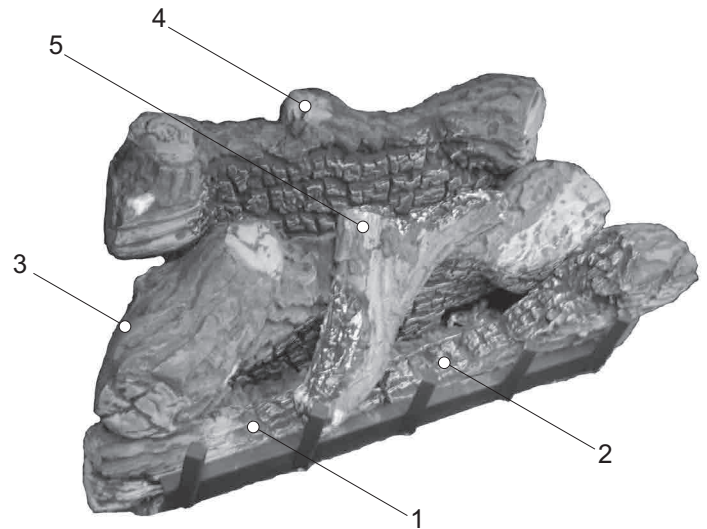
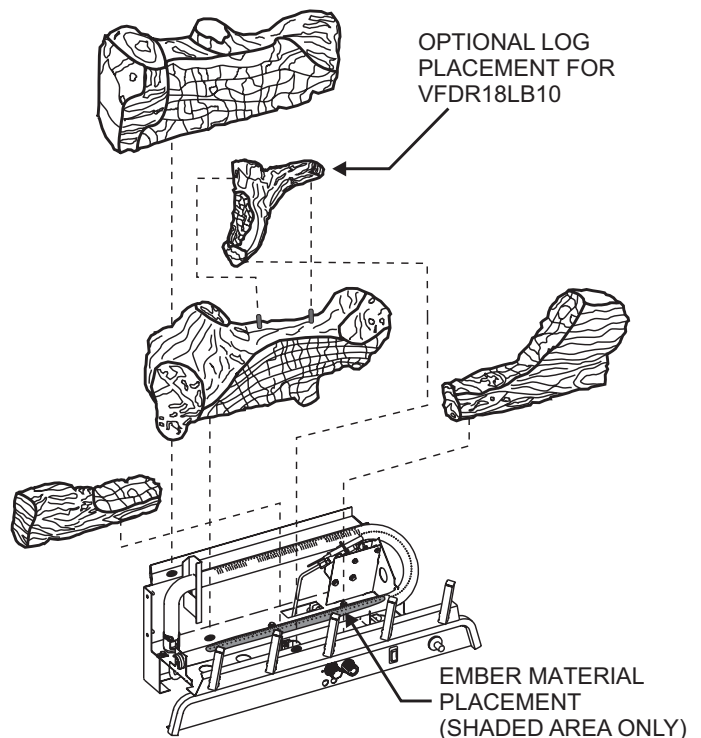
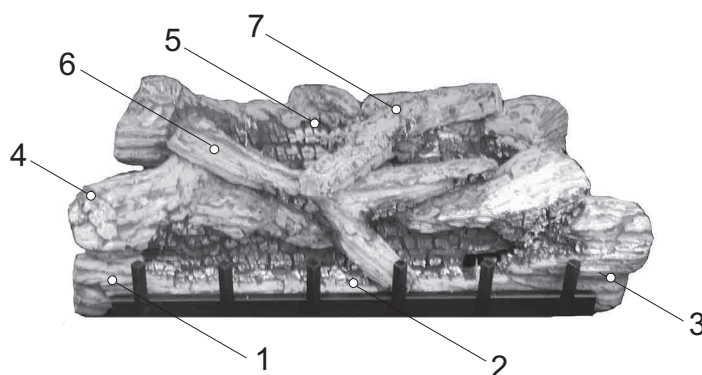
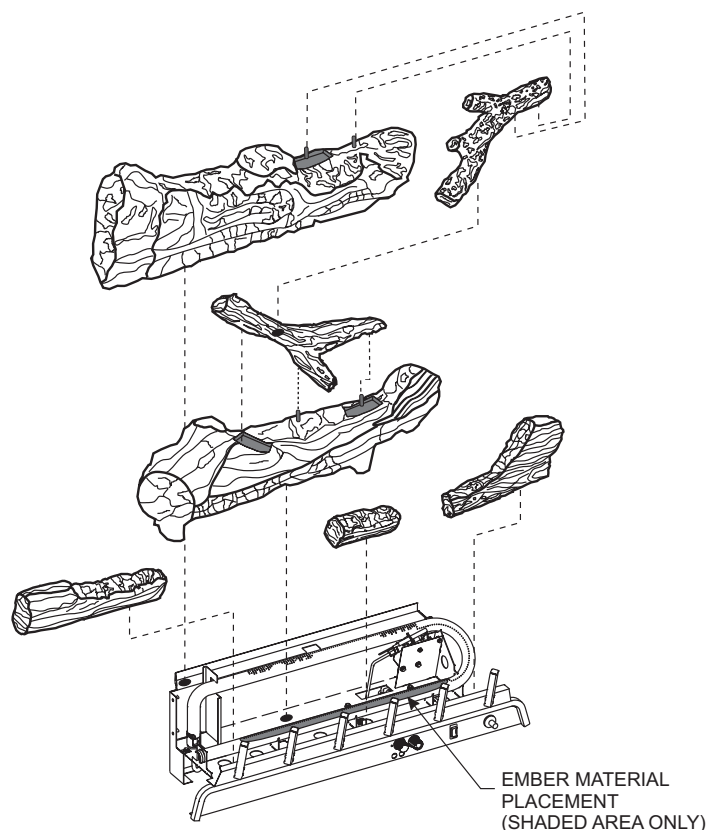

Figure 11
Figure 12
Figure 13
Figure 14
The positioning of the logs is critical to the safe and clean operation of this burner assembly. Sooting and other problems may result if the logs are not properly and firmly positioned on the burner assembly. Refer to **Figure 11** and **Figure 12** and corresponding **'WARNING:'** when completing following log placement instructions.
5. After all logs are positioned properly, apply Rockwool ember material to the front burner port area. To apply, carefully separate the ember material into small amounts no larger than "dime size" pieces. Fluffed up pieces one layer thick on top of the burner generally works best, and will provide the best ember glow. Do not place ember material more than one layer thick. No more than (2) two small packets of ember material (part no. 15998) evenly placed on the burner, is recommended on VFDR18 and VFDR24 models. Using additional ember material will decrease the amount of ember glow effect. Extra ember material should be saved for future ember applications as necessary. See **Figure 12**.
Attention: Do not use **Figure 12** or **Figure 13** to order logs. Refer to Parts Lists and Parts Views to order logs and/or ember material for your appropriate model.
The positioning of logs is critical to safe and clean operation of this burner assembly. Sooting and other problems may result if the logs are not properly and firmly positioned on the burner assembly. Refer to **Figure 13** and **Figure 14** and corresponding **WARNING**: when completing following log placement steps.
6. After all logs are properly positioned, place small "dime" size pieces of Rockwool lightly across the front burner tube ports. Place the ember material (Rockwool pieces) side by side. Do not stack more than one layer of embers across the burner ports. No more than (1) one packet of ember material (part number 15999) evenly placed on the burner, is recommended on VFDR30 models. **See Figure 14**.
Attention: Do not use **Figure 13** or **Figure 14** to order logs. Refer to Parts Lists and Parts Views to order logs and/or ember material.